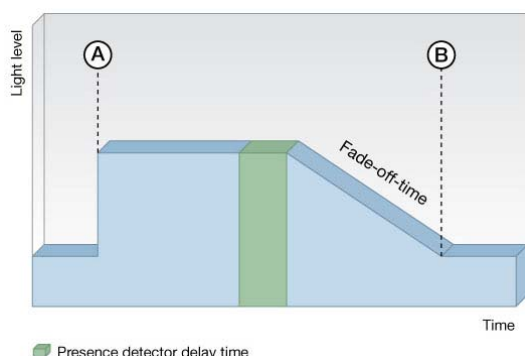

Fig. 2: Standard profile 1 “Never OFF” (A...100 %, B...10 %, Fade time 32 s, never OFF)
If a corridor application has been set up with the “automatic detection procedure” all the ballasts will operate with the standard corridorFUNCTION profile. (Fig. 2)
* See Fig. 2 on page 3